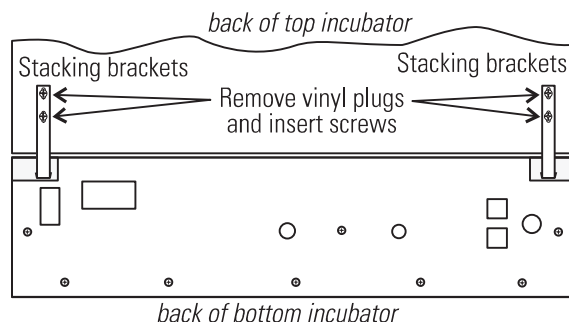

Figure 1-6. Brackets Installed
7. Install the stacking brackets on the back of the control panel on the bottom unit. Refer to Figure 1-6.